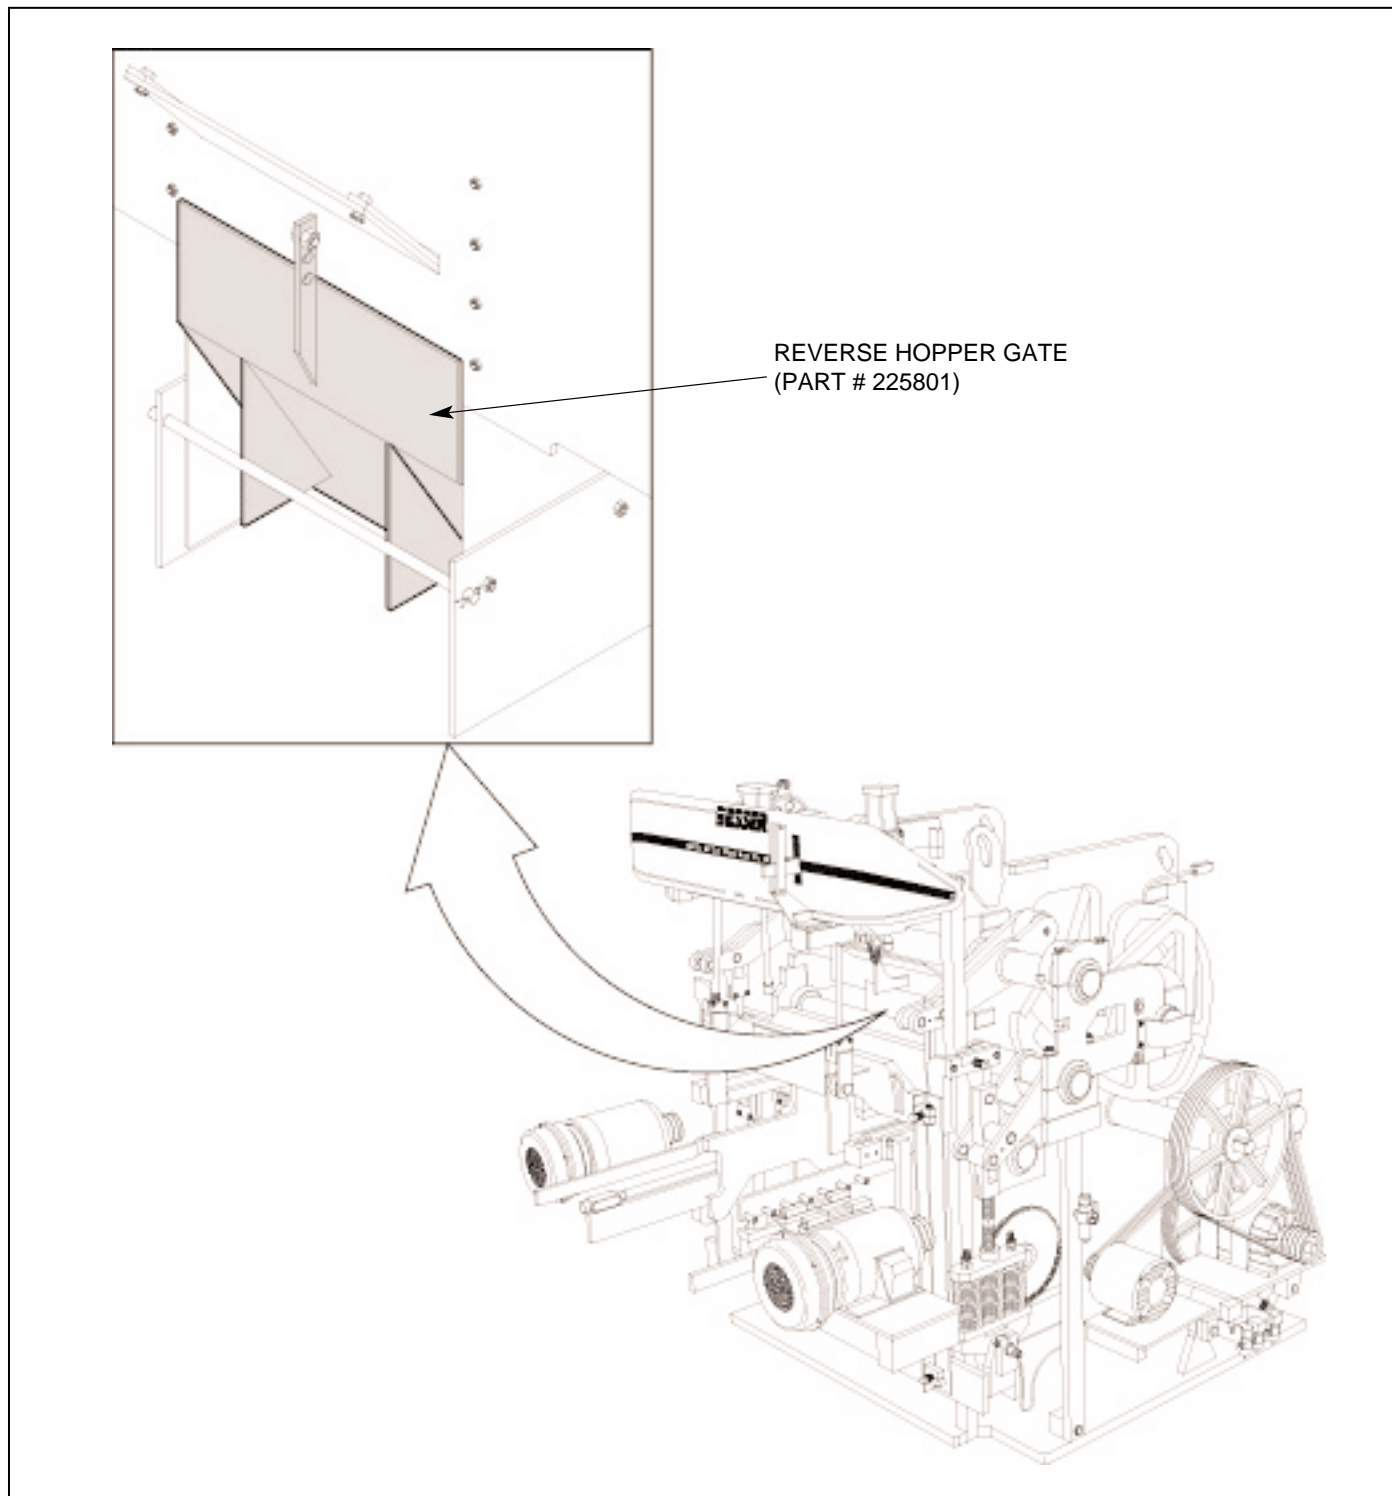

Figure 4.20 REVERSE HOPPER GATE
- 4.2.7 Install the reverse hopper gate (**part #225801**). See figure 4.20..